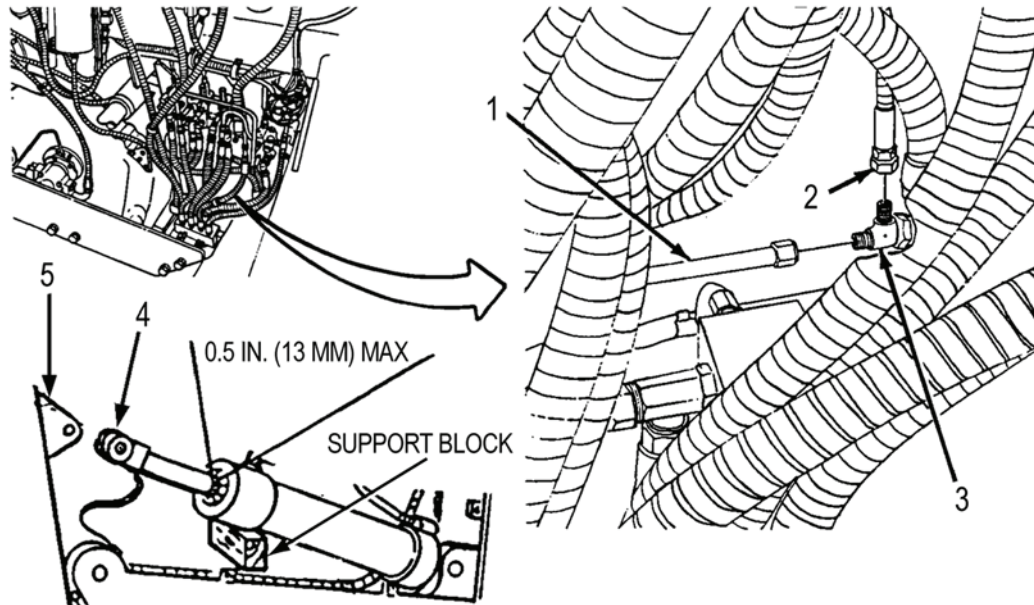

Figure 48. Apron Cylinder Leakage Test
- Start engine, lower apron completely, and disconnect right-hand and left-hand end of cylinder rods (Figure 48, item 4) from apron (Figure 48, item 5).
- Retract cylinder rods (Figure 48, item 4) approximately halfway.
- Disconnect CKT-20 (REAR) TEE hose (Figure 48, item 2) and CKT-20 (REAR) TEE tube (Figure 48, item 1) from tee (Figure 48, item 3) on hull floor. Cap and plug hose, tube, and fittings.
- Start engine, have assistant hold APRON CONTROL lever in UP position. Measure the extension of both cylinder rods (Figure 48, item 4). Continue to hold APRON CONTROL lever in UP position for one minute. Measure the extension of both cylinder rods (Figure 48, item 4) again.